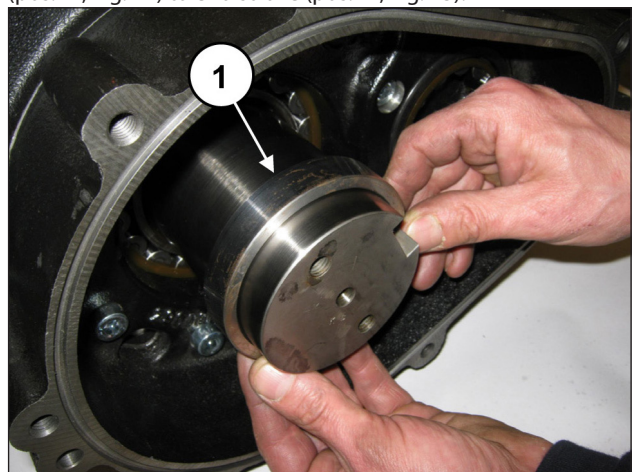
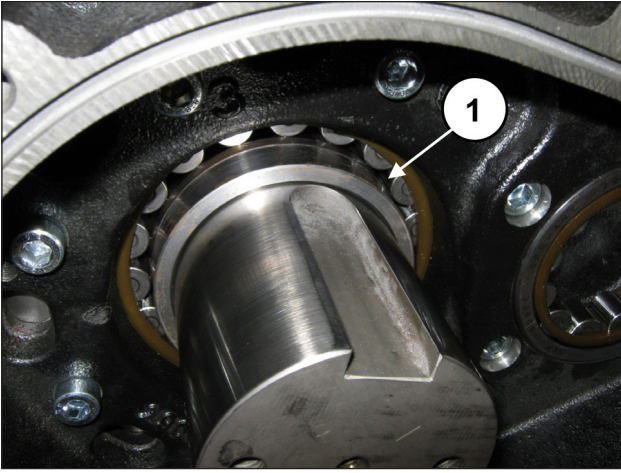

Fig. 72
Fig. 73
Insert the ring gear support ring in the bend shaft shank (pos. ①, Fig. 72) to end stroke (pos. ①, Fig. 73).